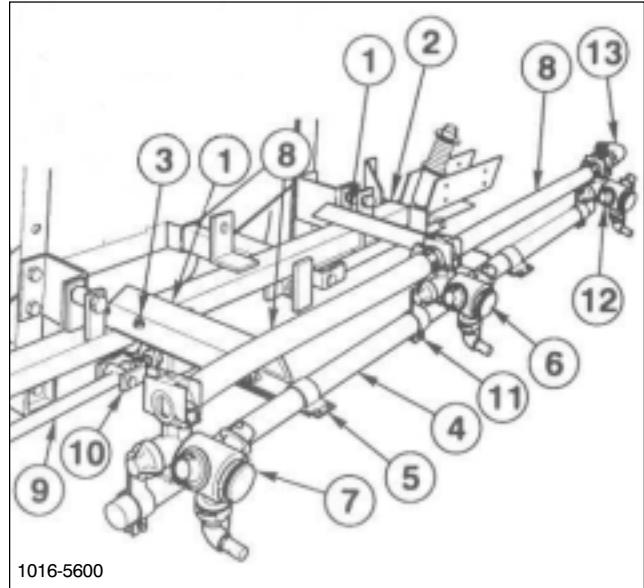

FIG. 15
15. Position the two (2) Center Boom angles on the Main Frame and secure them to the Main Frame Tube with two (2) square U-bolts, four (4) Flat Washers and Hex Nuts. (See FIG. 15)
16. Center and attach the Center Boom Pipe to the two (2) Center Boom Angles with two (2) clamps, (2) 3/8" x 1" cap screws, flat washers and lock nuts. Once mounted the Center Boom Pipe should be approx. 20" from ground.
17. Loosely attach the Double Barb Turret Body with the Turret Body Clamp in the approximate center of the Center Boom Pipe. For the most uniform spray coverage, position all Nozzles level as shown in FIG. 15.
19. Place two (2) Hose Clamps on two 3/4" x 19" Jumper Hoses and connect the two (2) "end" Turret Bodies to the Double Barb Turret Body. Space nozzles 20" apart and tighten fasteners securely. Apply thread sealer and install the 90° 3/4" Hose Barb on the Threaded Turret Body. (See FIG. 15)
20. Attach the two (2) Strut Assemblies to the two (2) adjustable clevis' found on each side of the Main Frame tube with two (2) 1/2" x 2" clevis pins and two (2) 1/8" x 1" cotter pins. (See FIG. 15)
26. Adjust the Booms to a level position by adjusting the jam nuts on the adjustable clevis assemblies (See FIG. 15, page 14) to the desired position, then tighten the end nuts against the Main Frame plate.